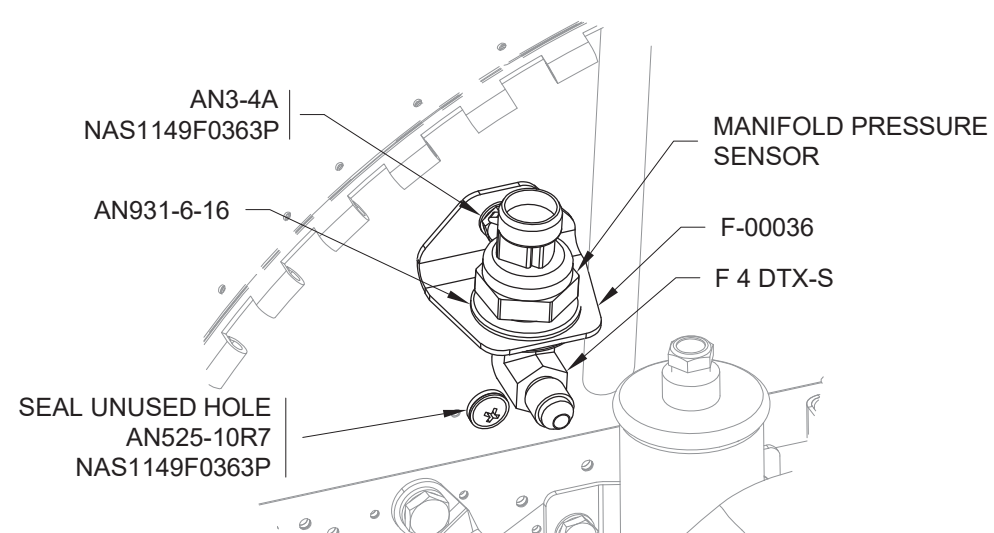
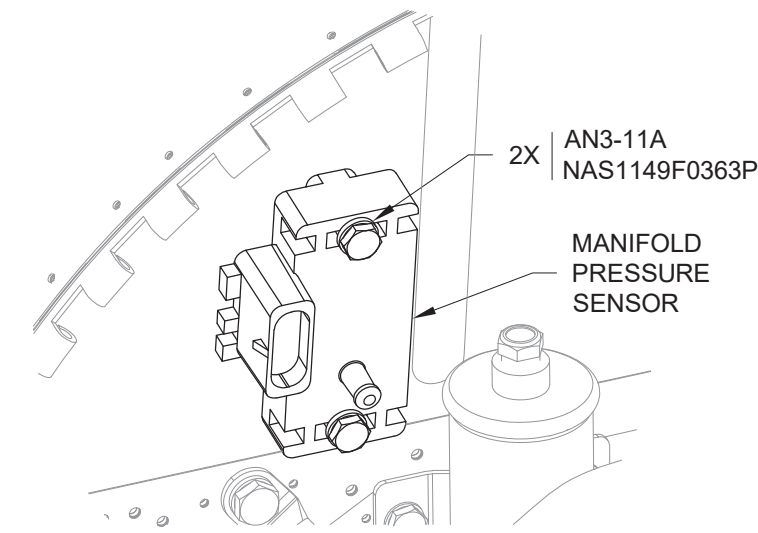

FIGURE 2: GARMIN MANIFOLD PRESSURE SENSOR
FIGURE 3: AFS-DYNON MANIFOLD PRESSURE SENSOR
Step 5: Depending on the type of avionics, install the manifold pressure sensor shown in Figure 2 or Figure 3.